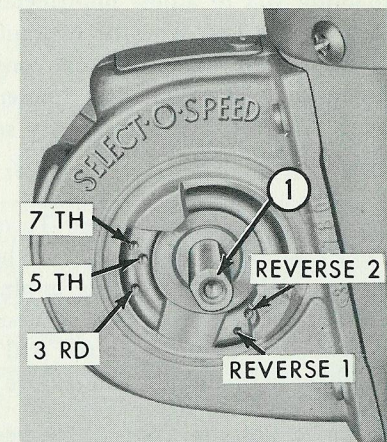

Figure 13
To move the selector lever to the opposite side of the shifter mechanism, take off both covers, Figure 2, by removing the Phillips head screw as shown at (1), Figure 13. Remove the selector lever from the shaft and position it on the shaft on the opposite side of the shifter mechanism. Switch the covers and reinstall with the Phillips head screws. Tighten securely.
Selector Lever Stops: Installation of the Lever Position Stops enables the operator to establish a pre-determined shift pattern between two gears. These stops are especially convenient for loader and other material handling operations. The speed stop screws can be positioned in any two of the gears 3, 5, 7, R_1 or R_2 by inserting them in the holes shown in Figure 13. These stops can be over-riden to obtain any gear by pulling outward on the spring-loaded selector